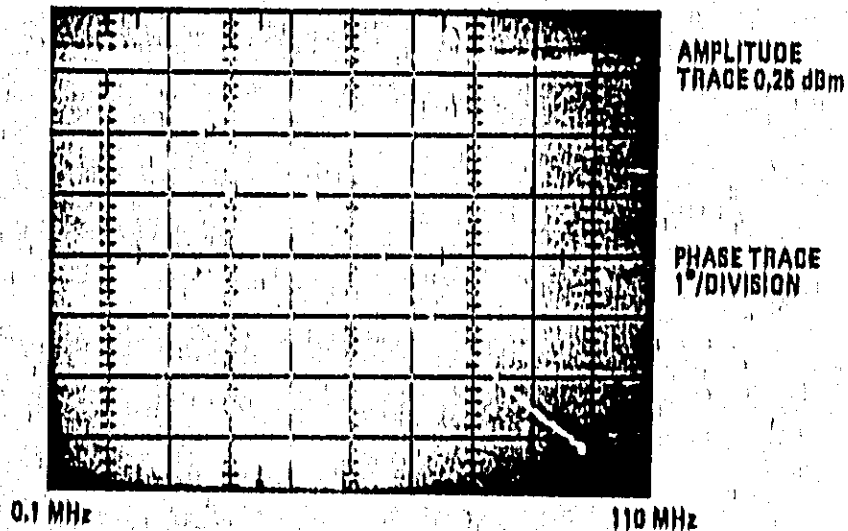
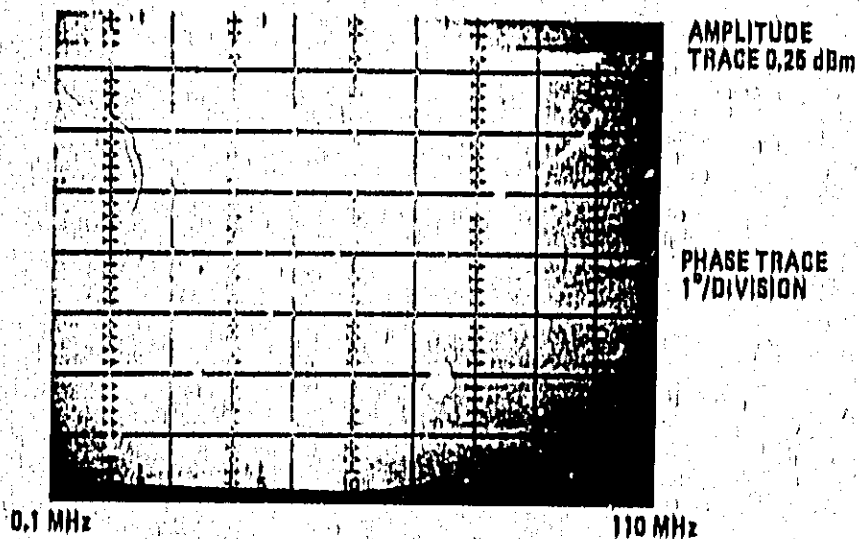

Figure 7-2L. PLO Locked on Correct Frequency
Figure 7-2M. PLO Locked on Wrong Frequency
- e. To ensure that the PLO board is locked on the correct frequency, extend the cable length to the test channel direct input 4 to 8 inches longer than the cable to the reference channel direct input (use cable 11652-00004). Set the 8601A SWEEP to FULL, the phase trace should fall off drastically (see Figure 7-2L). If the phase trace shifts upward (see Figure 7-2M), the PLO is locked on the wrong frequency. (To correct, repeat Step d above.) Then apply a small amount of glue (such as "Q" Dope), while still watching the PLO TUN voltage, so that the slug does not slip.